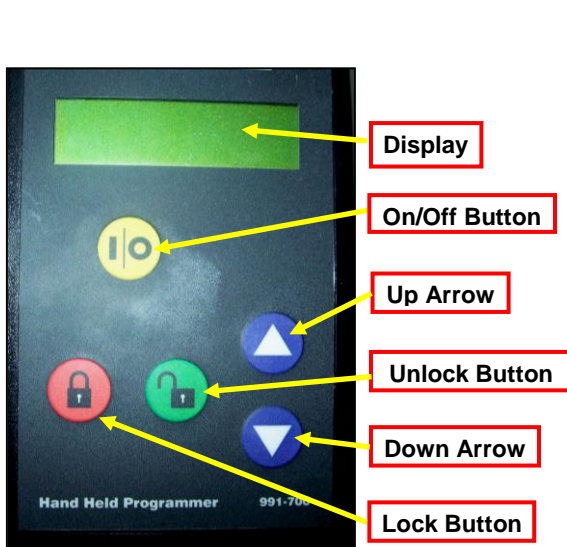

FIGURE 1
5. Turn the controller on by pressing and holding the I/O button. **See Figure 1.**